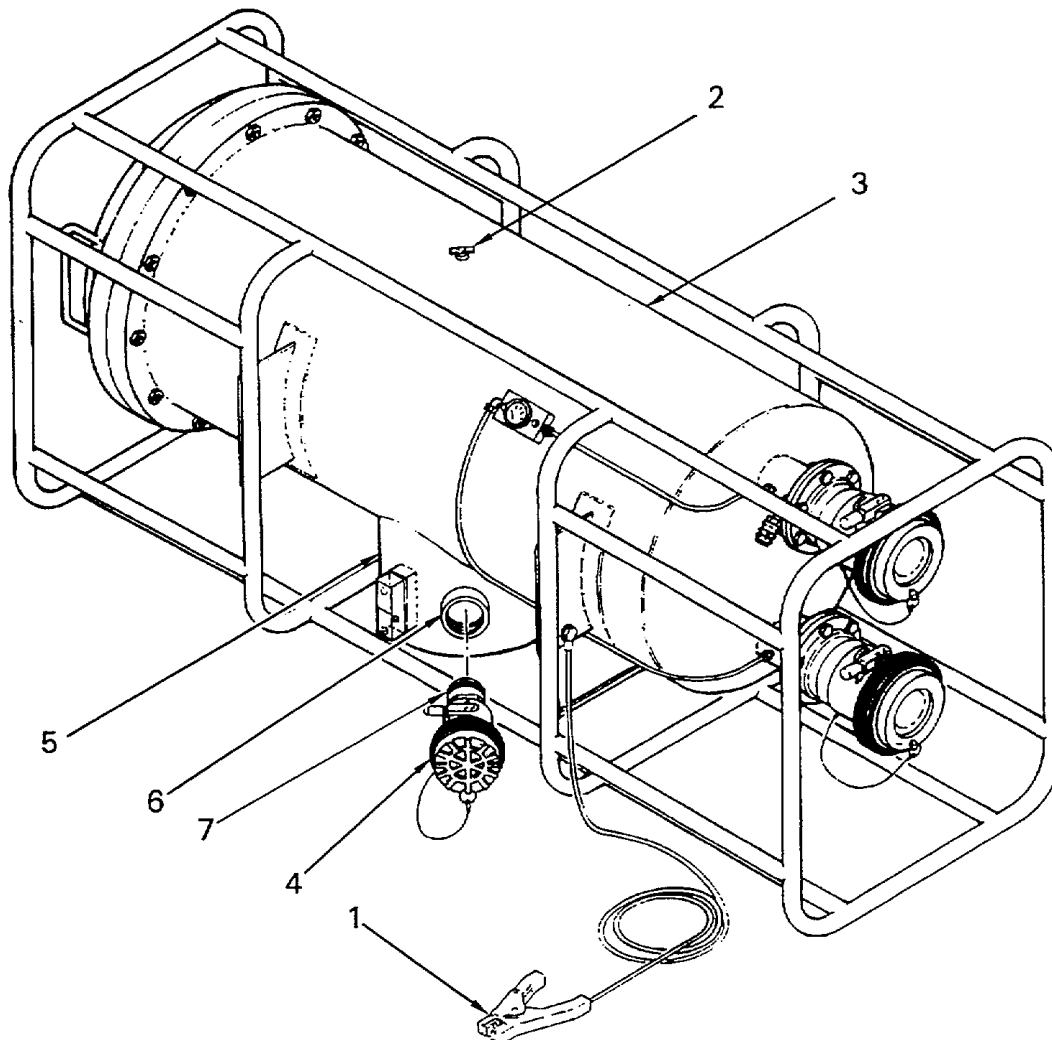

Figure 4-15. Filter Vessel Gravity Drain Plug Replacement
a. Removal. (Figure 4-15)
- (1) Connect the liquid fuel filter-separator grounding cable (1) to a secure ground.
- (2) Position a drain pan beneath the filter vessel gravity drain plug (2). The drain pan should be of sufficient size to hold between 2 to 3 gals. of fuel.
- (3) Remove the filter vessel gravity drain plug (2).
b. Installation. (Figure 4-15)
- (1) Inspect and clean drain plug threads on filter vessel (3) and filter vessel gravity drain plug (2).
- (2) Apply thread sealant to the filter vessel gravity drain plug (2).
- (3) Install the filter vessel gravity drain plug (2).
- (4) Place grounding cable (1) in stowage location.